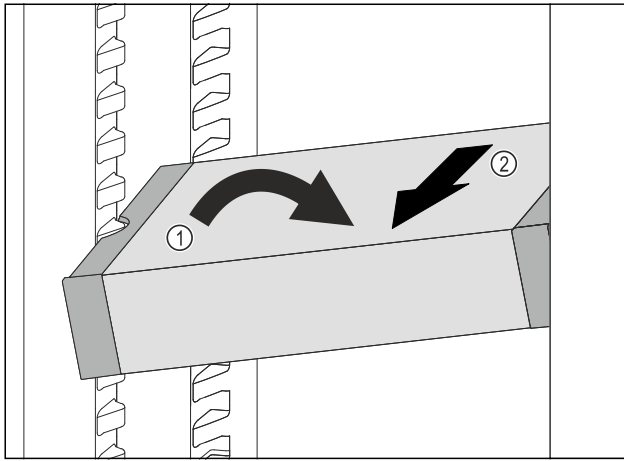

Fig. 117
- Set VarioSafe in refrigerator compartment at an angle. Fig. 117 (1)
- Take VarioSafe out to the front. Fig. 117 (2)